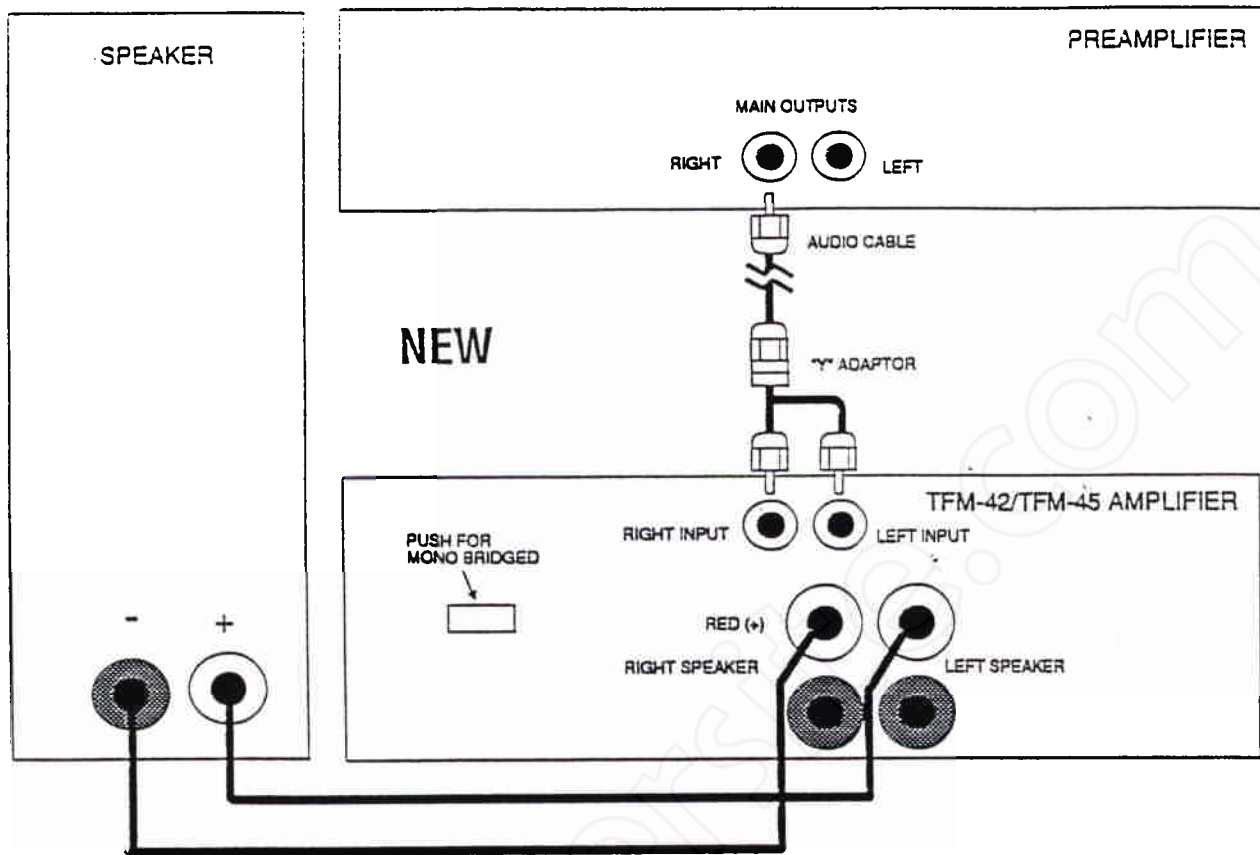

Figure 5 Connections for Mono Operation
Last-minute engineering improvements made after this manual went to print have required a change for mono operation. This correction replaces Connections for Mono Operation on page 10 and Figure 5 on page 11.
2. Connect the LEFT and RIGHT input jacks on the TFM-42/45 to a "Y" adapter. Connect the Y-adapter via an audio cable to either the LEFT or RIGHT output of a mono source, as shown in Figure 5.